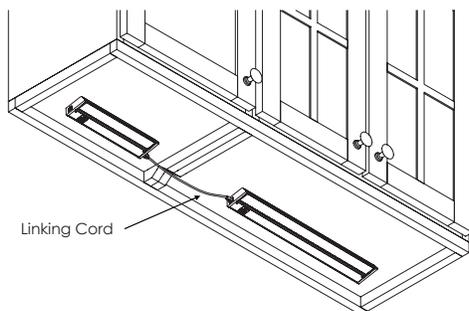

Figure 17
2. The linking cord is fitted with a distinct cord connector plug at each end and will only connect one way. Try inserting one end of the linking cord into the power port, if that fails try the other end of the linking cord. Do not try to force the plug into the port. make sure plugs on both ends are fully inserted into ports on both fixtures (Fig. 17).